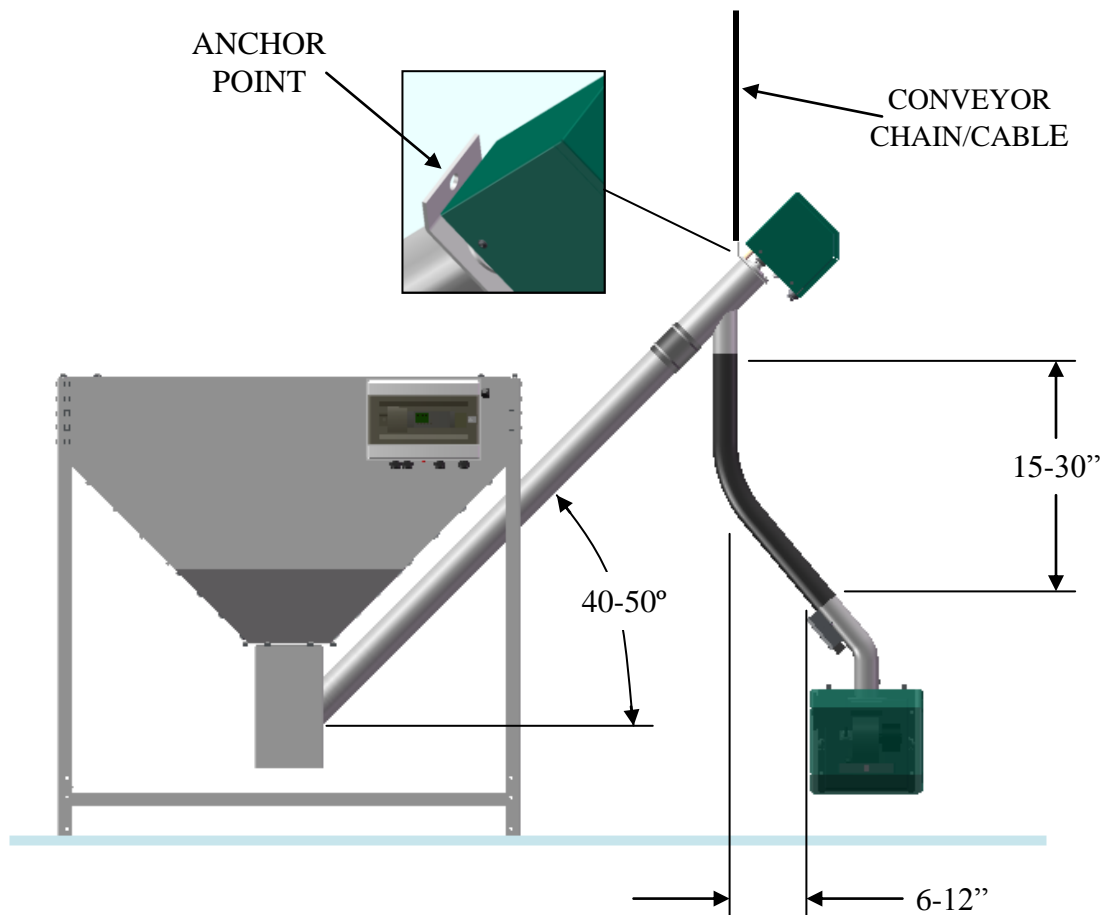

Figure 2.3: Conveyor mounting details.
- The overhead anchor point must be able to continuously support a minimum of 100 pounds. See Figure 2.3 below
- The conveyor must be mounted such that the drop tube is a minimum of 15-inches above the PB-1525/3550 pellet feed tube opening (Max 30-inches) See Figure 2.3 below
- The conveyor must be mounted such that the drop tube is a minimum of 6-inches laterally away from the PB-1525/3550 pellet feed tube opening (Maximum of 12-inches). See Figure 2.3 below
as shown in Figure 2.3 above.
4. Install the overhead anchor and hang the conveyor using an appropriate chain, cable or anchor as in Figure 2.3 above.